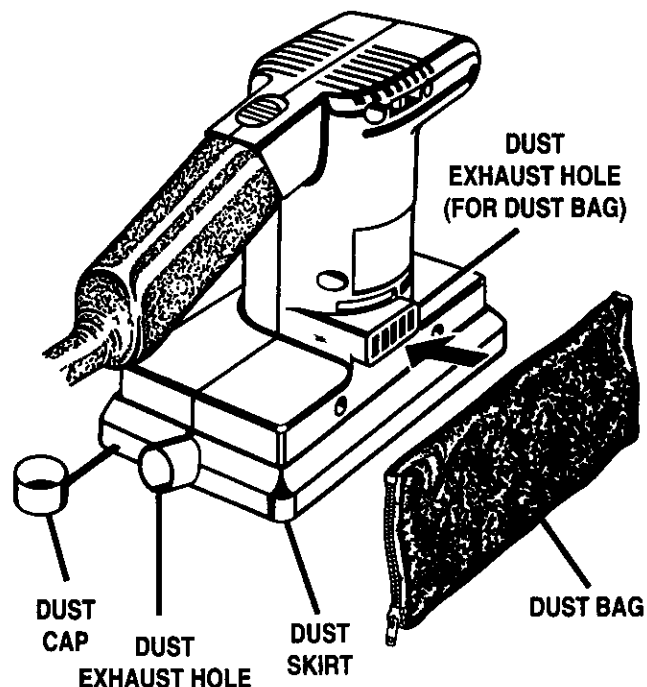

Fig. 7
See Figure 7.
- Place opening in dust bag retainer over dust exhaust hole and secure into position. See Figure 7.
- Remove dust cap from hole on rear of dust skirt. See Figure 7.
- Connect the pickup adapter end of your hose to dust exhaust hole, located on rear of dust skirt. See Figure 7.